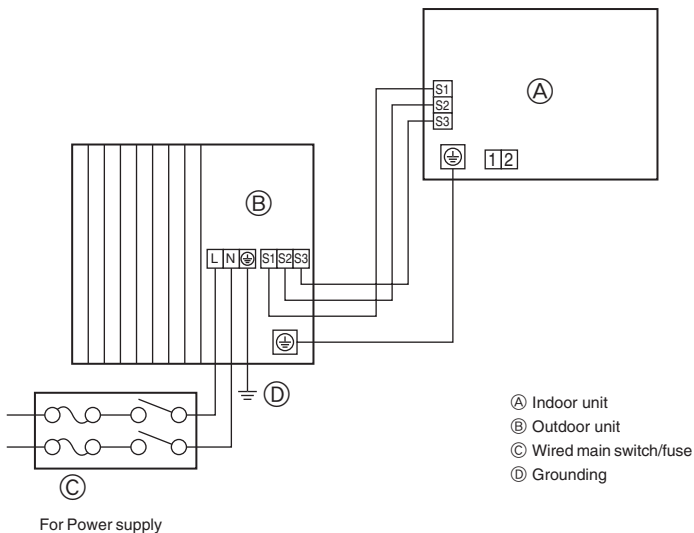
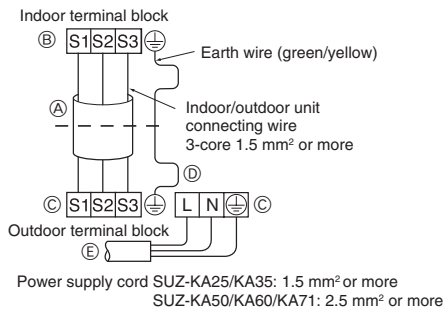
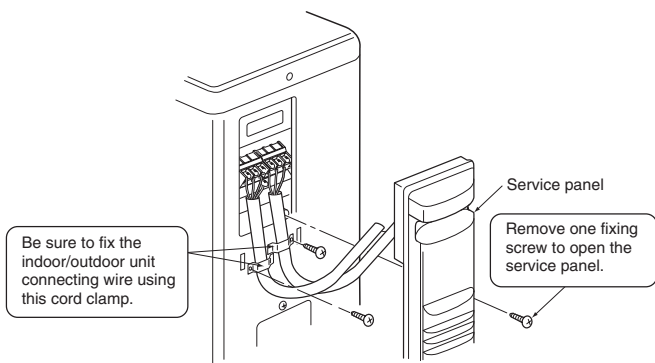
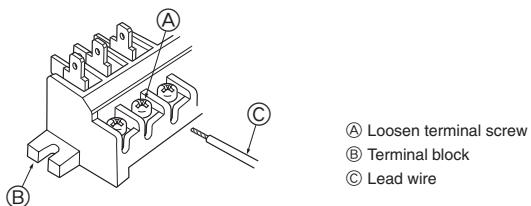

Fig. 6-1
Fig. 6-2
Fig. 6-3
Fig. 6-4
### 6.1. Outdoor unit (Fig. 6-1, Fig. 6-2, Fig. 6-3, Fig. 6-4)
- ① Remove the service panel.
- ② Wire the cables referring to the Fig. 6-1, Fig. 6-2, Fig. 6-3 and the Fig. 6-4.
- Perform wiring as shown in the diagram to the lower left. (Procure the cable locally) (Fig. 6-2)
- Use care not to make miswiring. (Fig. 6-4)